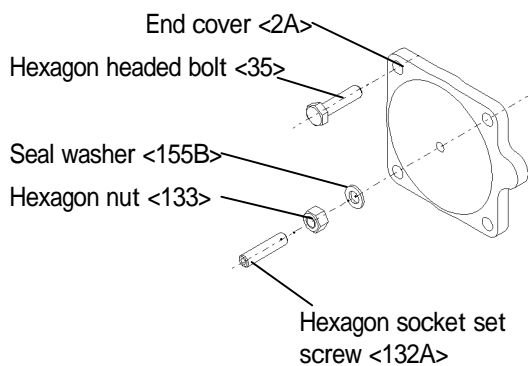

Fig.3
- (5) Remove two end covers together with inside O-rings from Type FA double action actuator. Remove an end cover and a spring cover from Type FAS spring return actuator, after having ensured that a spring cartridge is de-energized (Fig.3).